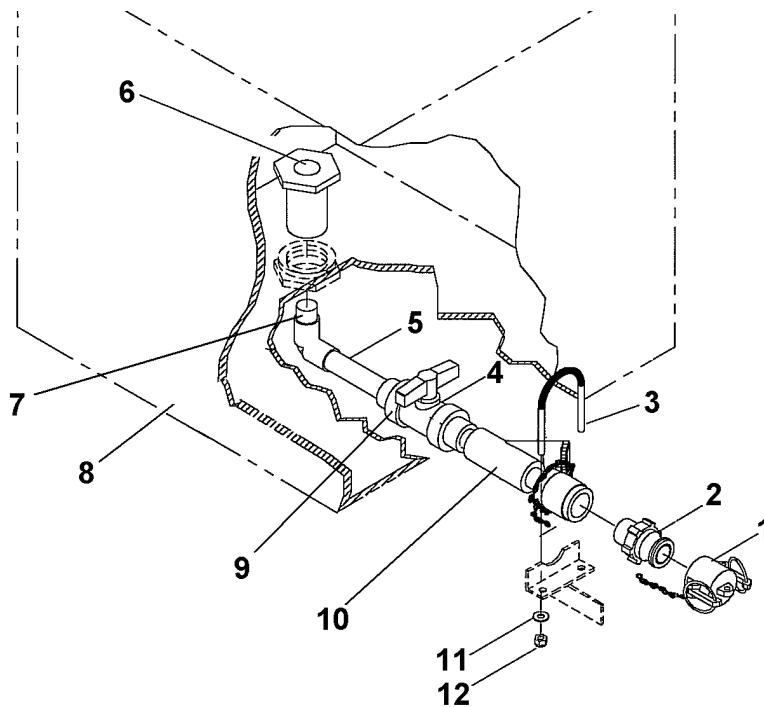

Figure 4. Cleaning Tank Outlet Piping.
1. The cleaning tank outlet piping is located beneath the cleaning tank (8). See Figure 4.
2. Loosen union (9) on the valve (4).
1. Refer to Figure 4 for this procedure section.
2. Install piping (5) on bulkhead fitting (6).
3. Install valve (4) on the piping (5). Tighten union (9).